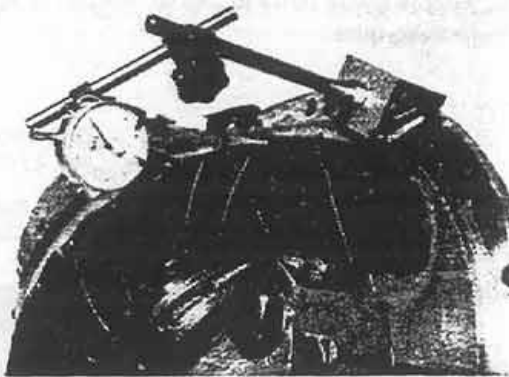

Figure 28:
Step 46. Use a dial indicator to check the backlash between the ring gear and the pinion shaft gear. The backlash is adjusted by moving the ring gear toward or away from the pinion shaft gear. Move the ring gear by loosening one lock nut and tightening the opposite. Move each lock nut the same distance so that the bearing adjustment made in the previous paragraph is not disturbed. Adjust the position until the gear backlash is between .007" and .030" if the new gear set is used, or adjust to the backlash noted at the disassembly for old gears. The specific backlash should be determined after the bearing cap bolts have been torqued 398-434 lb. ft. (540-589 N.M.). Check backlash at three points around the ring gear (Fig. 28).